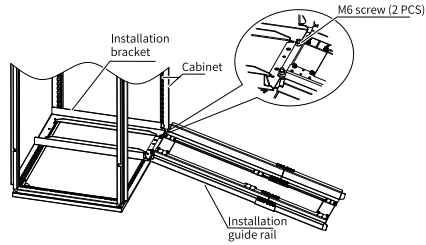

Figure 5-39 Mounting the guide rails to the cabinet
- a. Align the two round holes at the front end of the mounting rail with the screws of the mounting bracket, and then lock the guide rail to the cabinet with two M6 nuts, as shown in "Figure 5-39 " on page 89 .